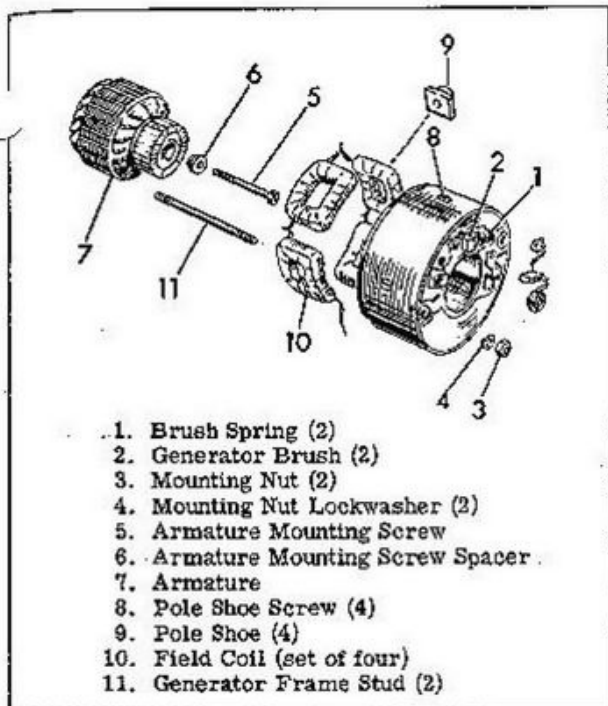

Figure 5E-16. Generator - Exploded View
Release brush springs (1) from brushes (2). Remove brushes (2) as shown in Figure 5E-17. Remove wire from "D+" terminal and wire from "DF" terminal. Remove generator mounting nuts (3), lockwashers (4) and pull generator from mounting studs (11). Remove tachometer drive (if used) and armature mounting screw (5), screw spacer (6) and using tool Part No. 97296-61P, Generator Armature Puller, pull armature (7) from shaft. (See Figure 5E-18.) Do not remove armature without using this tool or damage to the part will result.